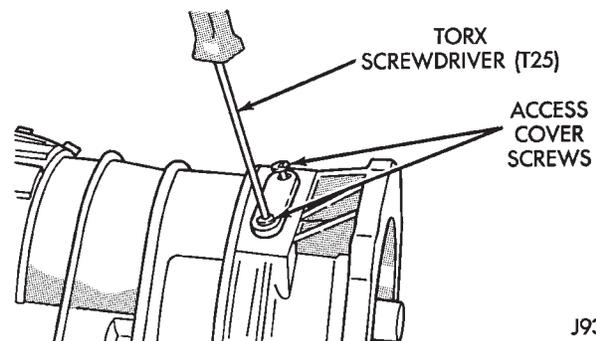

Fig. 258 Locating Ring Access Cover And Gasket Installation
(10) Install locating ring access cover and gasket in overdrive unit case (Fig. 258).